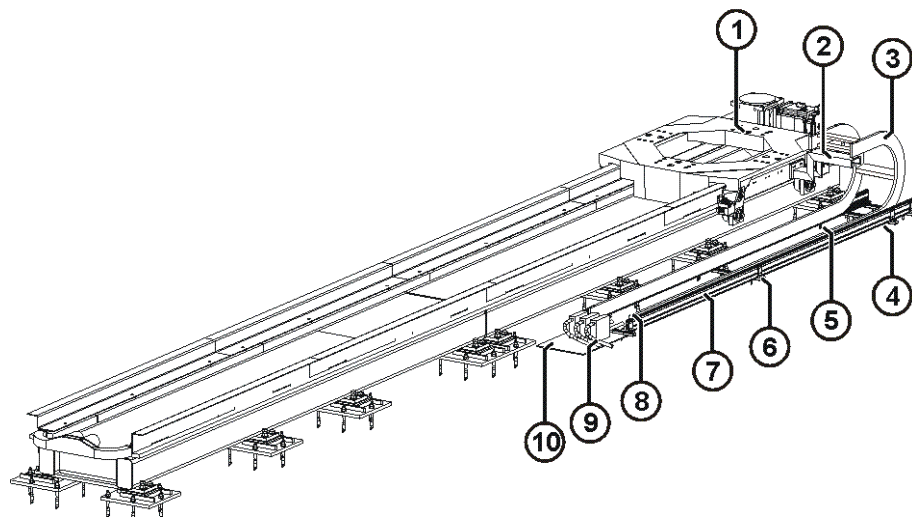

Fig. 8-7: Energy supply system, short travel
1. Assemble the trough system (>>> Fig. 8-7).